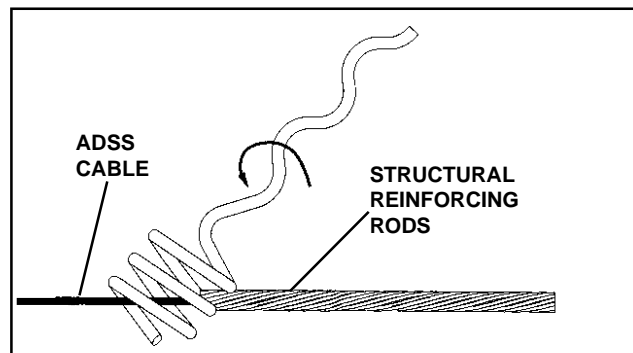

FIGURE 1 - ROTATE THE ADSS-CORONA COIL
2.01 Slip the opening in the coil section on the ADSS cable as shown in Figure 1, and rotate the coil until the cable is completely inside the coil section.